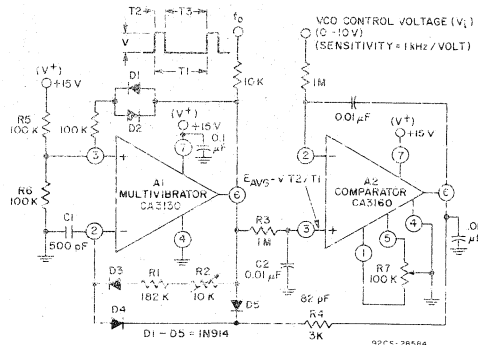

Fig. 21 — Voltage-controlled oscillator.
The circuit diagram of a precision voltage-controlled oscillator is shown in Fig. 21. The oscillator operates with a tracking error in the order of 0.02 percent and a temperature coefficient of 0.01%/°C. A multivibrator (A₁) generates pulses of constant amplitude (V) and width (T₂). Since the output (terminal 6) of A₁ (a CA3130) can swing within about 10 millivolts of either supply-rail, the output pulse amplitude (V) is essentially equal to V₊. The average output voltage ($E_{avg} = V T_2/T_1$) is applied to the non-inverting input terminal of comparator A₂ via an integrating network R₃, C₂. Comparator A₂ operates to establish circuit conditions such that $E_{avg} = V_1$. This circuit